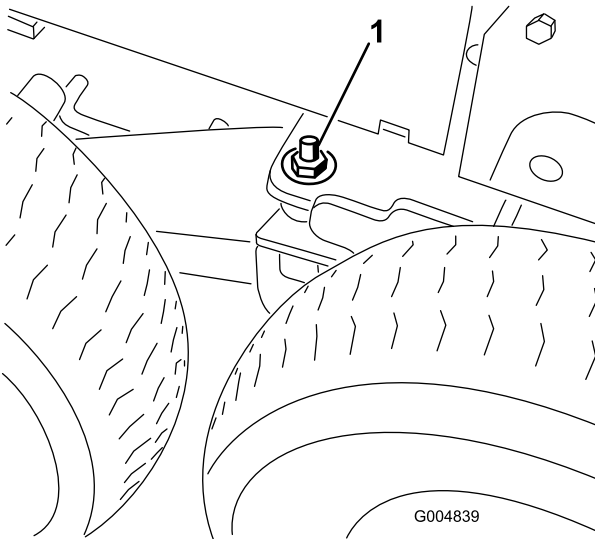

Figure 76
7. Remove the 1/2" locknut and flat washer from the left and right bogie pivot weldment to unlatch the pivot (Figure 76).
11. Lower the floor jack until the bogie pivot weldment moves enough so that the 1/2" flat washer and locknut can be installed on the stud and threaded finger tight on both sides of the machine (Figure 76).